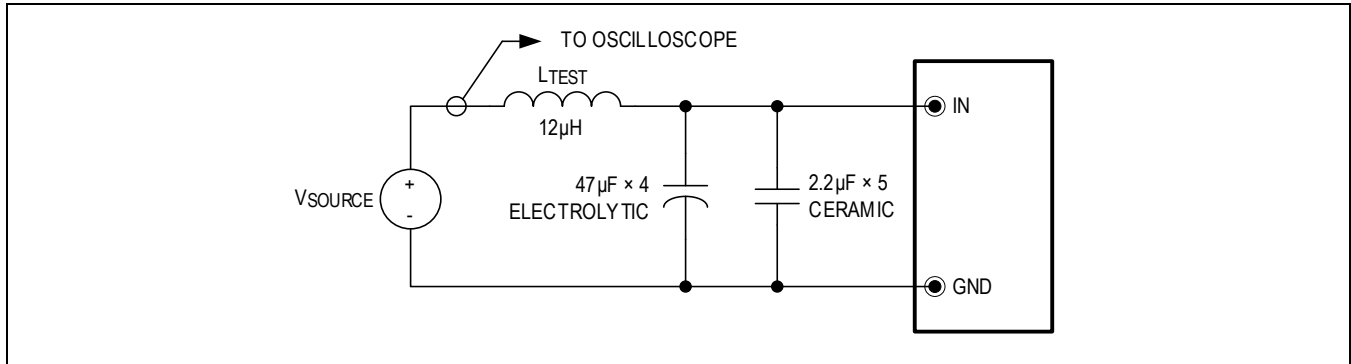

Figure 1. Input Reflected Ripple Current Test Setup
**Note:** Measure the input-reflected ripple current with a simulated source inductance of  $12\mu\text{H}$ . The measurement points for the input-reflected ripple current are shown in Figure 1.
The power module should be connected to a low AC-impedance input source. High inductive source impedances can affect the stability of the power module. For the test configuration in Figure 1, use four  $47\mu\text{F}$  electrolytic capacitors and five  $2.2\mu\text{F}$  ceramic capacitors in parallel mounted close to the power module to help ensure stability of the module.